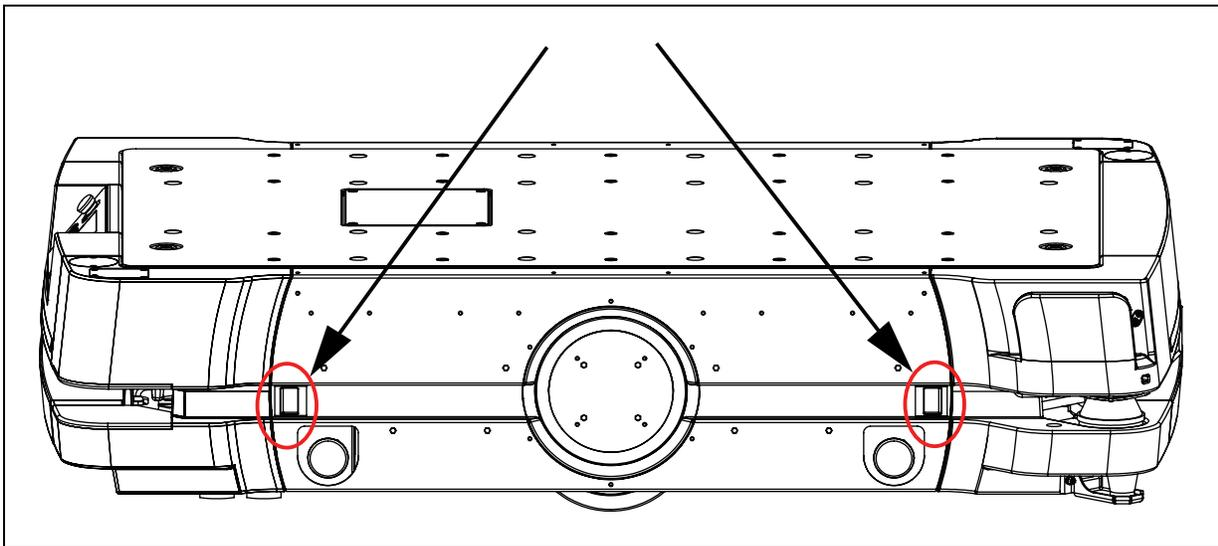

Figure 8-56. Side Skin Recessed Handles
1. Locate the side skin latches ((A) in Figure 8-56.) as shown in the following figure. The latches also act as recessed handles for easy grip.